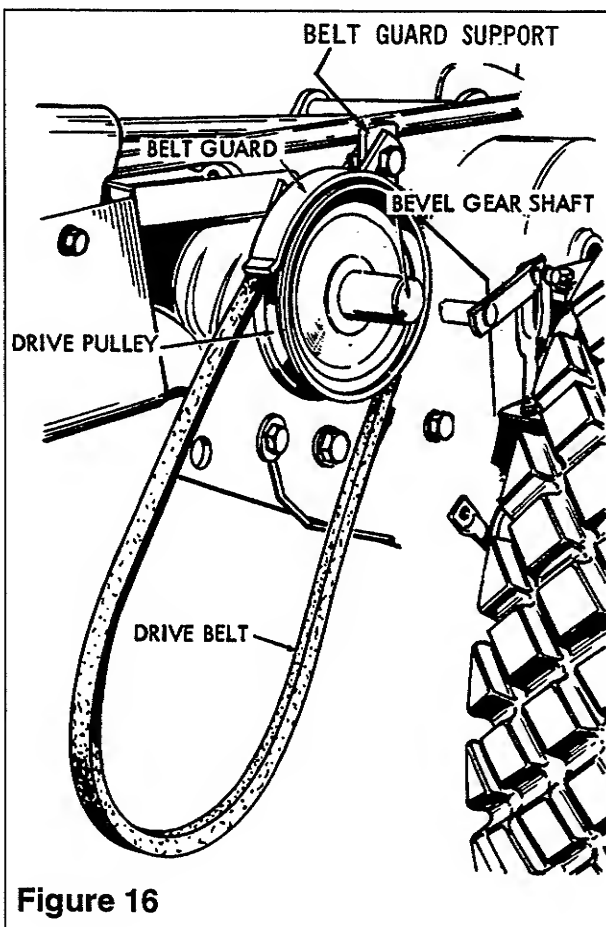

Figure 16
1. Mount Drive pulley to shaft of bevel gear assembly (See Figure 16) and secure in place with key and set screw. Hub of Drive pulley is to face inward. Place drive belt on Drive pulley and mount belt guard support to inside surface of side plate nearest drive pulley. See Figure 20 for mounting bolt location. Attach the belt guard to the guard support as shown in Figure 16. Allow approximately  $\frac{3}{16}$ " clearance between belt and guard.